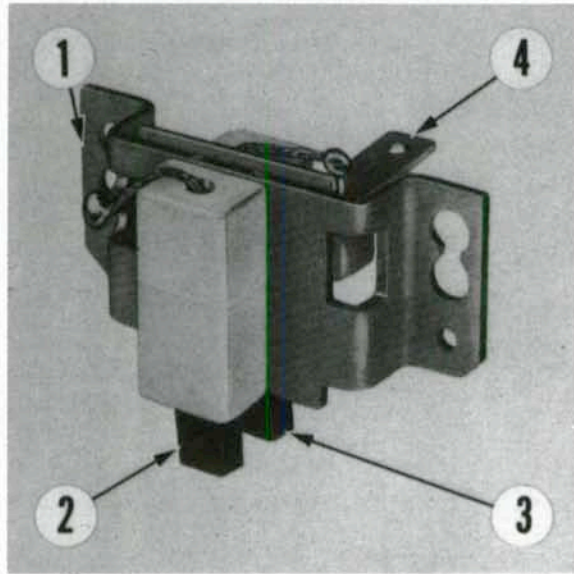

Fig. 150—View of brush holder assembly showing continuity test points. Refer to text.
grease or oil. Renew brushes if length is less than 5/16 inch (7.6 mm). Brush spring pressure should be minimum of 4 ounces (1.1 N) when end of brush is flush with end of holder. Use a battery powered test lamp or ohmmeter to check insulation and continuity of brushes and holder. There should not be continuity between the field terminal (4—Fig. 150) and brush holder frame (1). There should be continuity between field terminal and the insulated brush (3) and between holder frame and grounded brush (2).